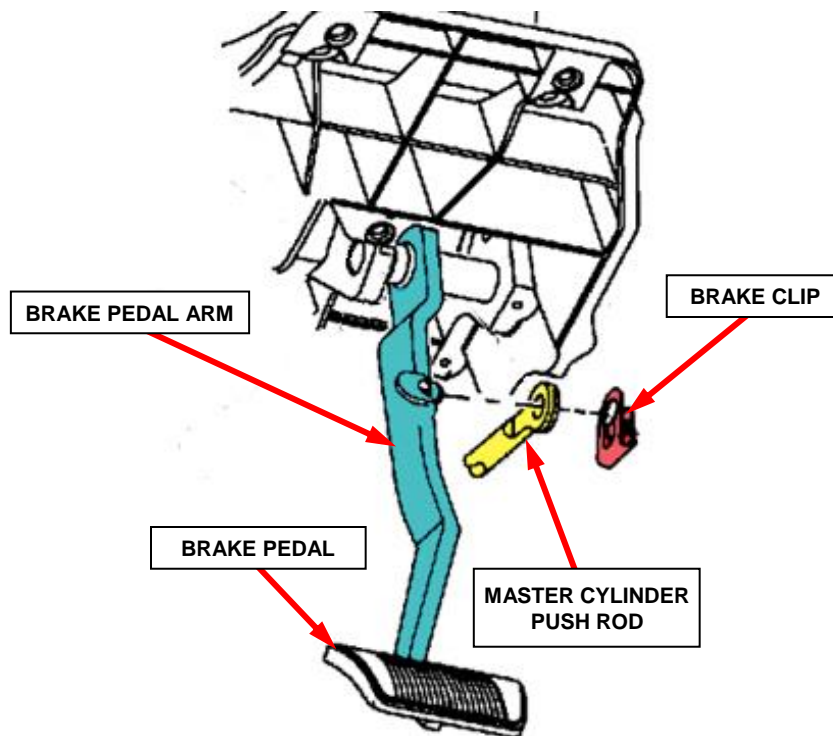

Figure 2 – Brake Master Cylinder Push Rod to Brake Pedal Arm Connection
3. Follow the brake pedal arm up under the instrument panel to where the master cylinder push rod connects to the brake pedal arm (Figure 2).